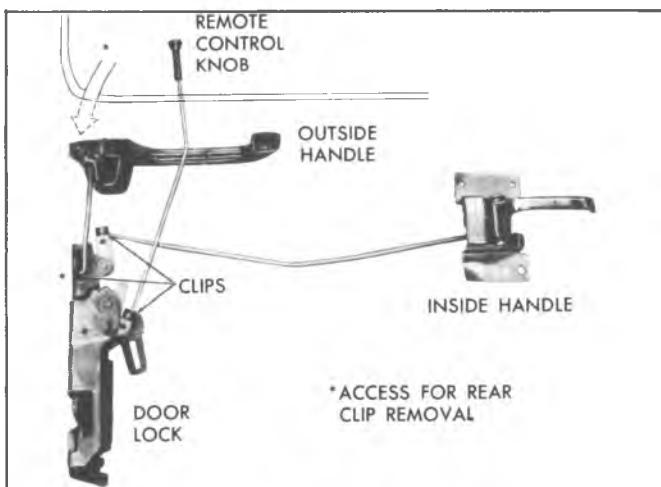

Fig. 32—Lock, Handles and Rods
The door lock, handles and control rods are shown in figure 32 as they would be installed in the vehicle. Note the clips which attach the three control rods to the lock assembly.
6. Remove clip from outside handle rod-to-lock. This is best accomplished by inserting a long screwdriver through the daylight opening, as shown in figure 32.